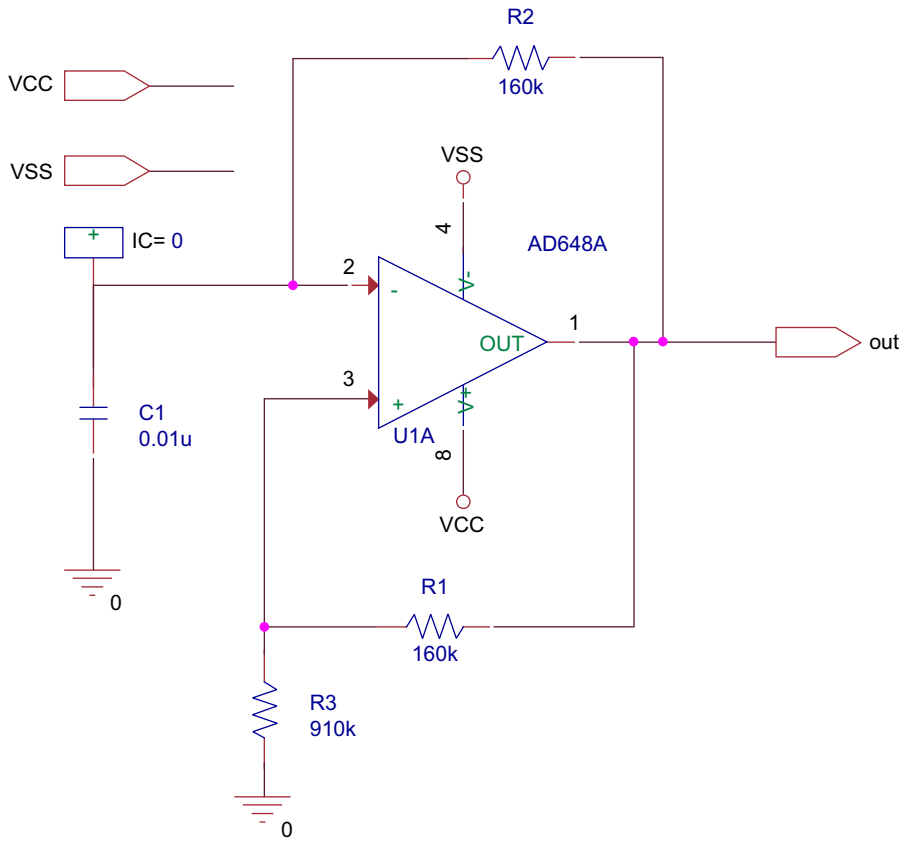
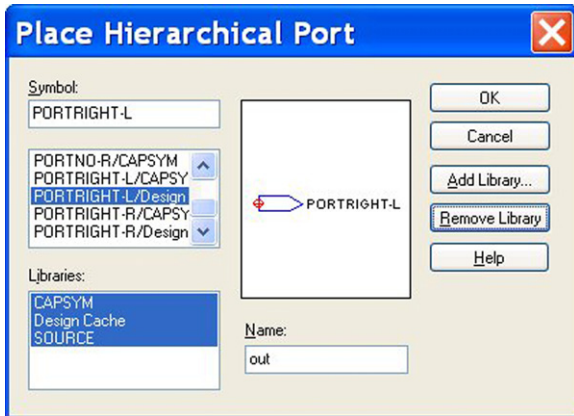

FIGURE 20.20
FIGURE 20.21
2. Draw the circuit in Figure 20.20. The AD648 opamp is from the opamp library. If you are using the eval version, use the uA741 opamp from the eval library. For the hierarchical ports, **Place > Hierarchical Port** (Figure 20.21) and place a hierarchical port (PORTRIGHT-L) on the output node **out** and a PORTRIGHT-R for the VCC and VSS power supply connections. Name the power ports VCC and VSS, respectively, and draw a short wire to each port as shown in Figure 20.20.
In order for the circuit to oscillate, an initial condition of 0 V needs to be placed on the capacitor. Place an IC1 from the special library on the capacitor C1, as shown in Figure 20.20.